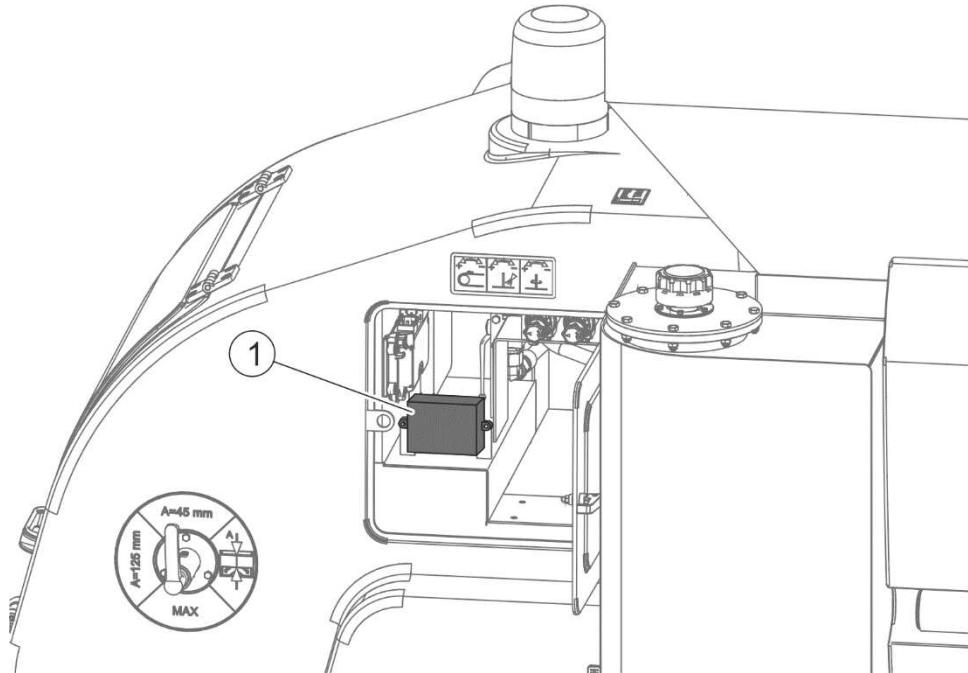
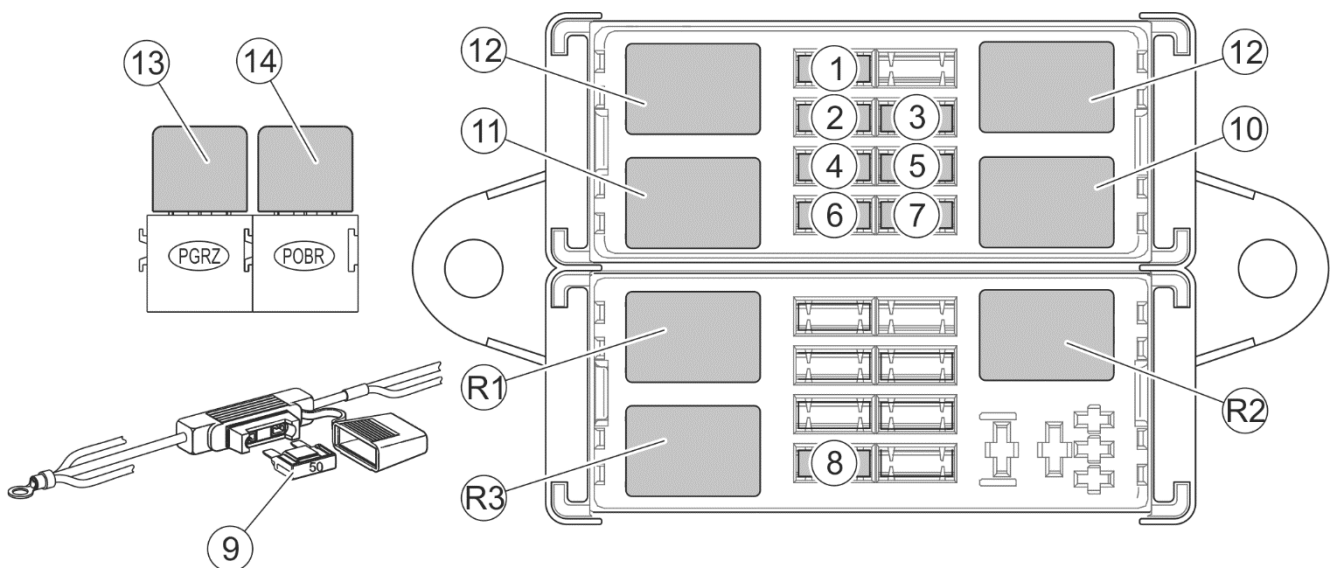

FIGURE 5.6 Location of fuse box
FIGURE 5.7 Fuses and relays
In case of electrical system failure, check fuses located in the fuse box next to the battery. Open the shield on the right side of the spreader to get access to the fuse box (FIGURE 5.6). Fuses and relays are located in holder (1) under small cover. Remove a blown fuse from the holder and replace it with a new one. In the engine's wiring harness system there are also two high current relays located in their stands and protected with a separate fuse (9) (FIGURE 5.7). List of fuses is shown in 0.